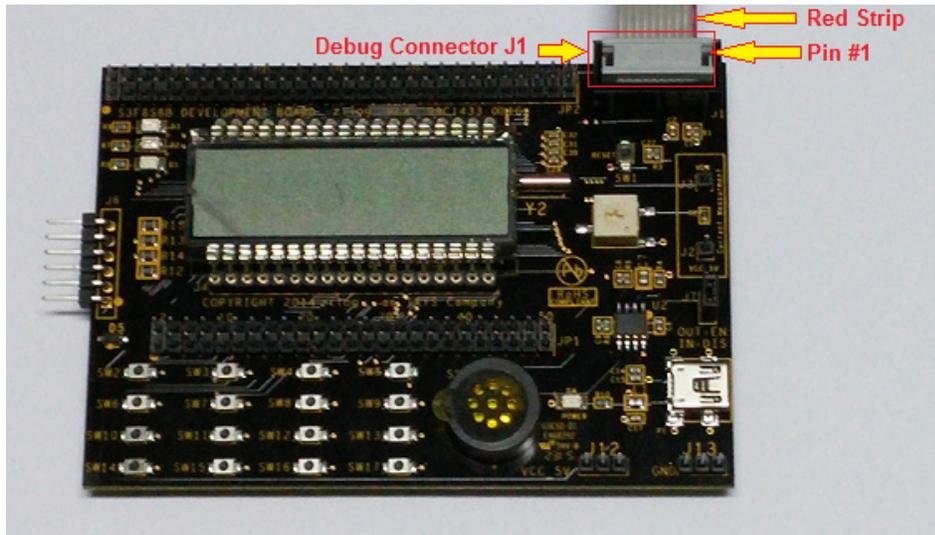

Figure 4. Debug Connector J1
3. Connect the other end of the ribbon cable to Debug Connector J1 on the Development Board. See Figure 4.